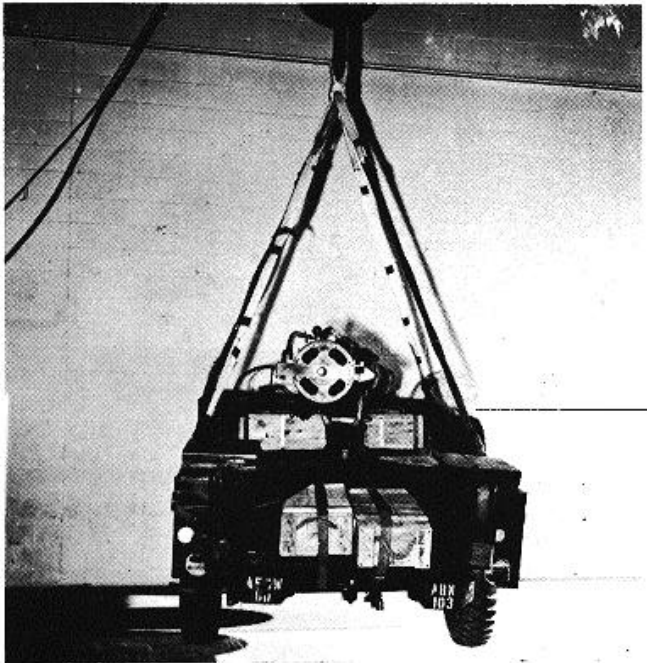

Figure 1. Rear view of the M151A1C 1/4-ton truck with mounted 106-mm recoilless rifle. Note tape at hitches.
- (1) Lower and lock windshield.
- (2) Position and strap down 3 boxes of ammunition (fig. 1).
- (3) Secure rifle on mount.